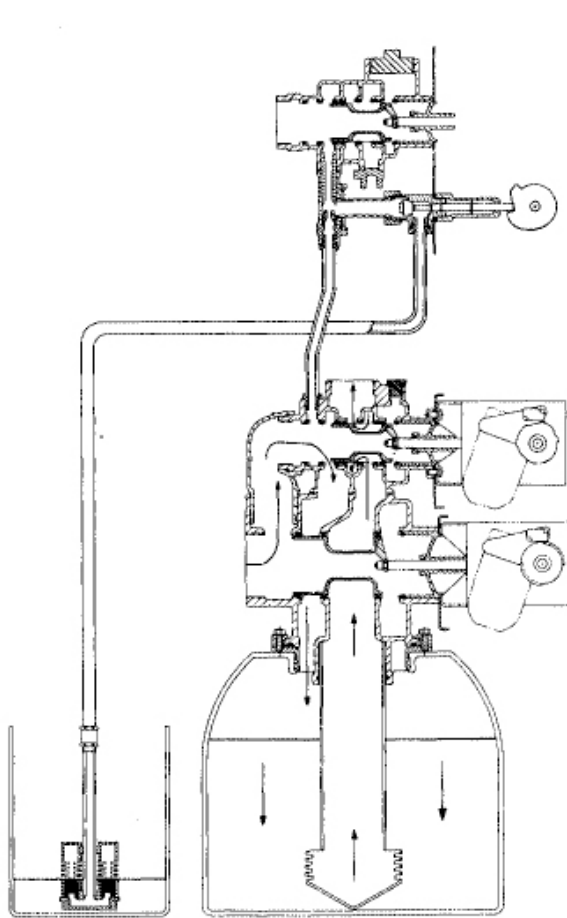

Figure 56. Rapid rinse fill flow.
2. Water flows up through the center tube, around the piston, and out the drain line. See Figure 56.